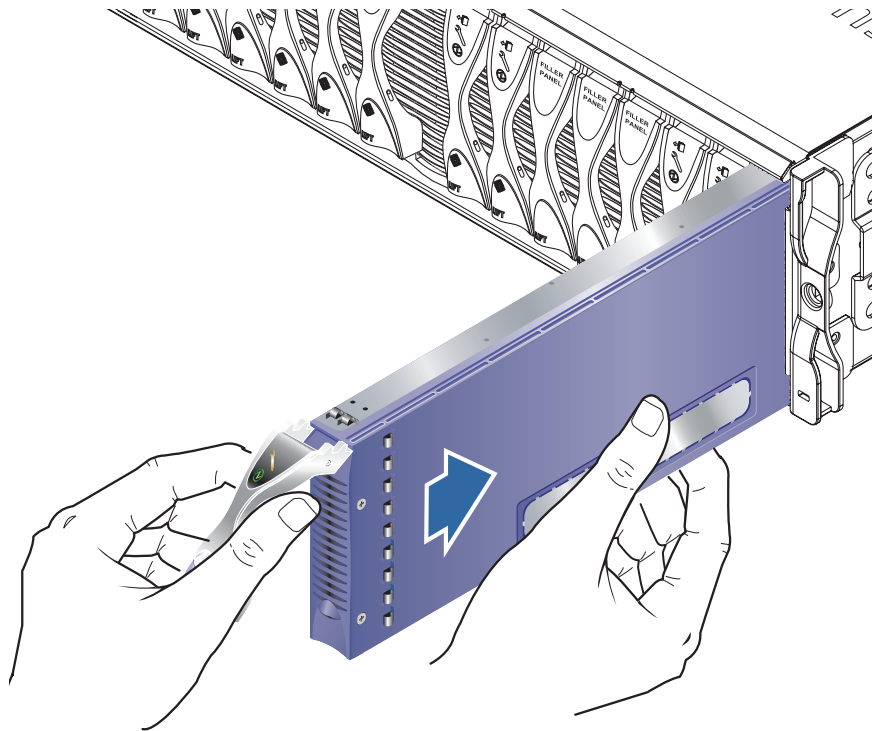

FIGURE 3-6 Aligning and Inserting the Blade
Ensure that the blade connector is facing towards the system chassis, with the hinge point of the lever mechanism at the top. Support the bottom of the blade with your free hand while lifting the blade up to the system chassis (FIGURE 3-6).
6. **Insert the blade into the selected system chassis slot (FIGURE 3-6).**